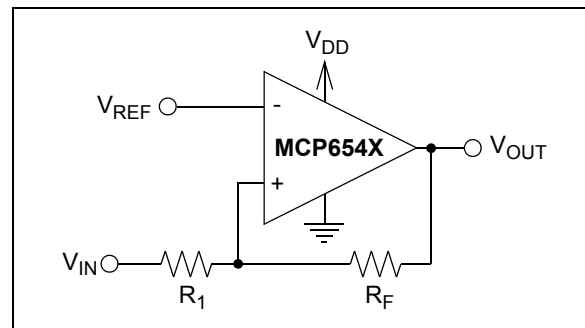
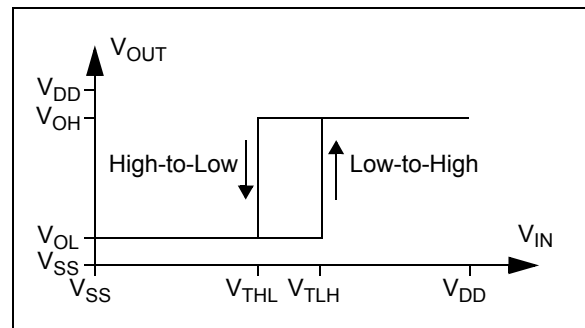

FIGURE 4-4: Non-inverting circuit with hysteresis for single-supply.
FIGURE 4-5: Hysteresis Diagram for the Non-Inverting Circuit.
Figure 4-4 shows a non-inverting circuit for single-supply applications using just two resistors. The resulting hysteresis diagram is shown in Figure 4-5.
The trip points for Figures 4-4 and 4-5 are:
2. Non-inverting Configuration (Figure 4-4):